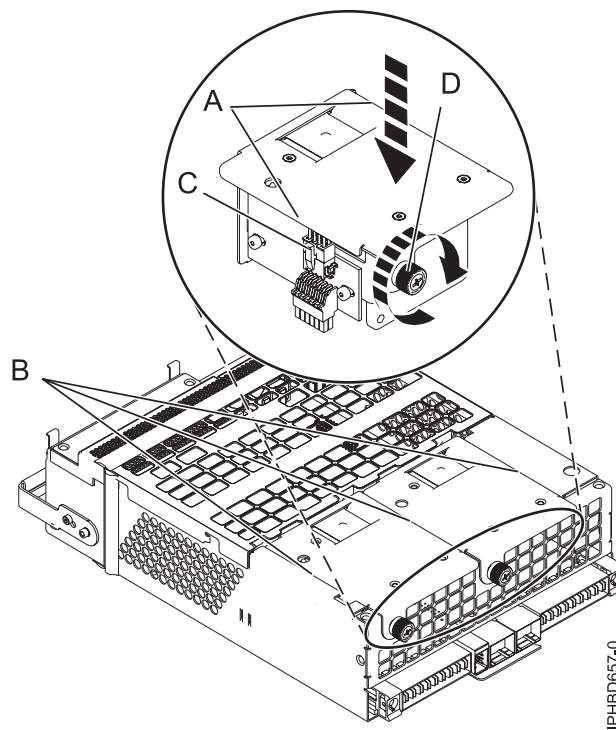

Figure 23. Replacing a fan
- b. Press the fan (A) into its connector in the assembly as shown in Figure 23.
- c. Tighten the thumbscrew (D) as shown in Figure 23.